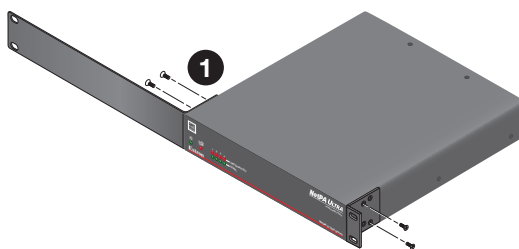

Figure 1. Installing Rack Ears onto the NetPA U 1004
2. Attach the included rack ears (one long and one short) to the sides of the amplifier with the four provided #6 machine screws (see figure 1, ①).